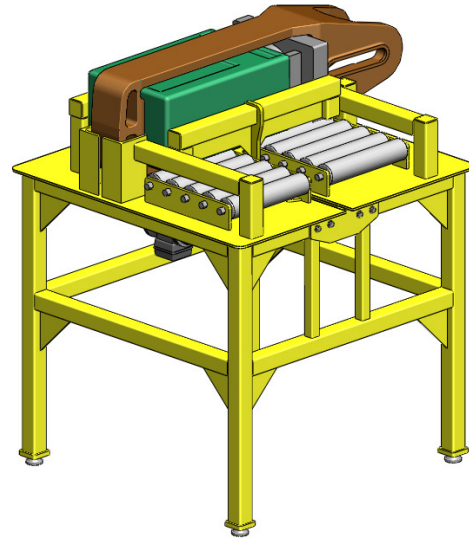

FIGURE 4
5. Use the top (extend) button of the control pendant to actuate the pusher arm. Keep your hands and fingers away from the draft gear components while they are assembling (Figure 4).
6. Release the pendant button after the draft gear and follower block have fully seated in the yoke. The electric actuator is equipped with a slip clutch that will stop the pushing action once the components are assembled. The actuator will still run when the slip clutch actuates (Figure 4).